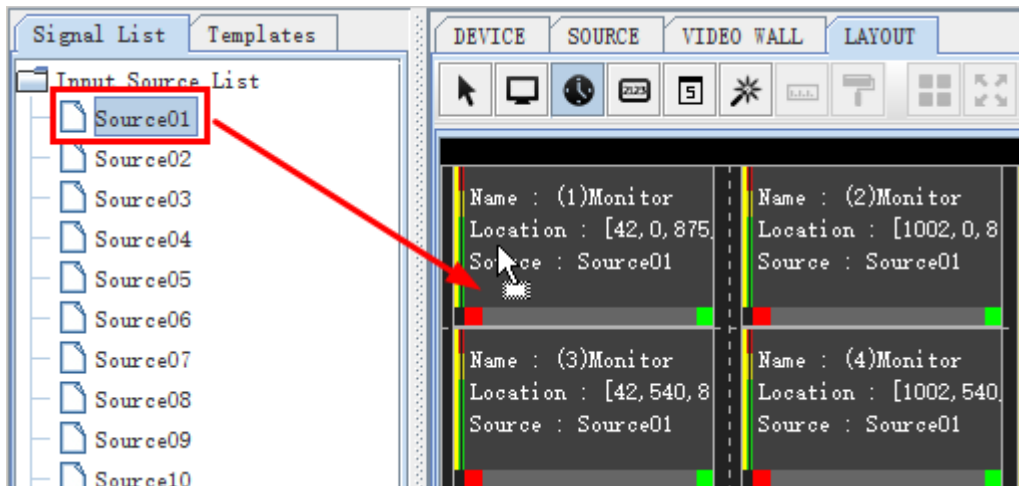

Figure 3.5-17 Connect a Signal Source for a Monitor Window
For example: select Source01 sub-node, press the left mouse button down, and drag it onto the Monitor(1) window, you can see the Source information in Monitor(1) is changed to Source01, as shown in **Figure 3.5-17**: